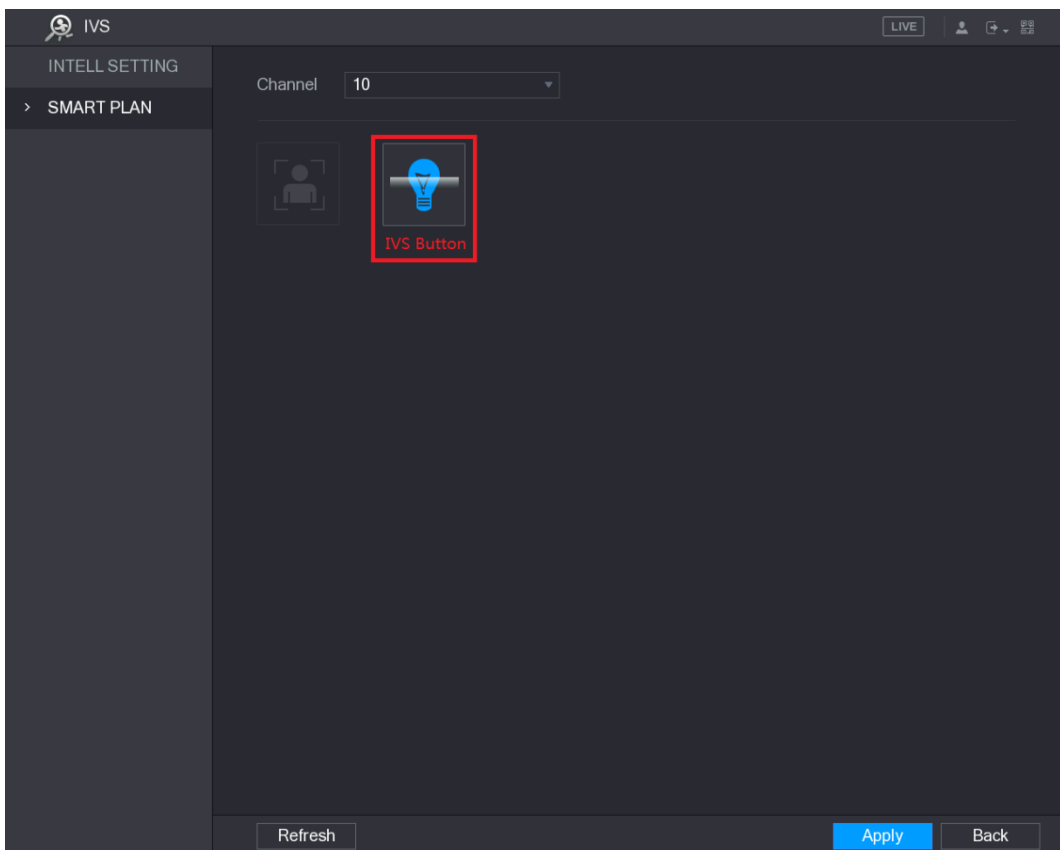

Figure 5-158
- For the IP camera without preset, see Figure 5-158.